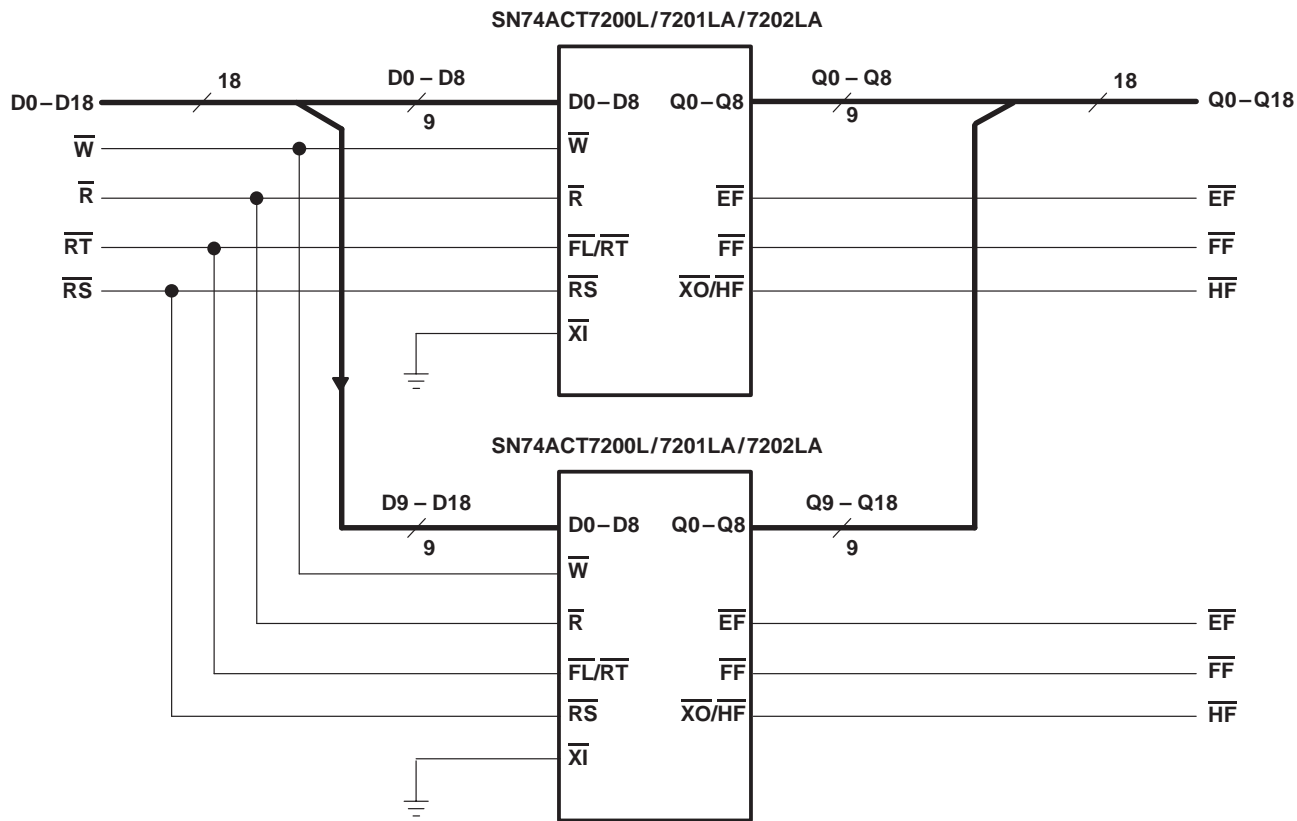

Figure 14. Word-Width Expansion: 256/512/1024 Words × 18 Bits
Word-width expansion is achieved by connecting the corresponding input control to multiple devices with the same depth. Status flags (EF, FF, and HF) can be monitored from any one device. Figure 14 shows two FIFOs in a width-expansion configuration. Both devices have their expansion-in ( $\overline{XI}$ ) inputs tied to ground. This disables the depth-expansion function of the device, allowing the first-load/retransmit ( $\overline{FL/RT}$ ) input to function as a retransmit ( $\overline{RT}$ ) input and the expansion-out/half-full ( $\overline{XO/HF}$ ) output to function as a half-full (HF) flag.